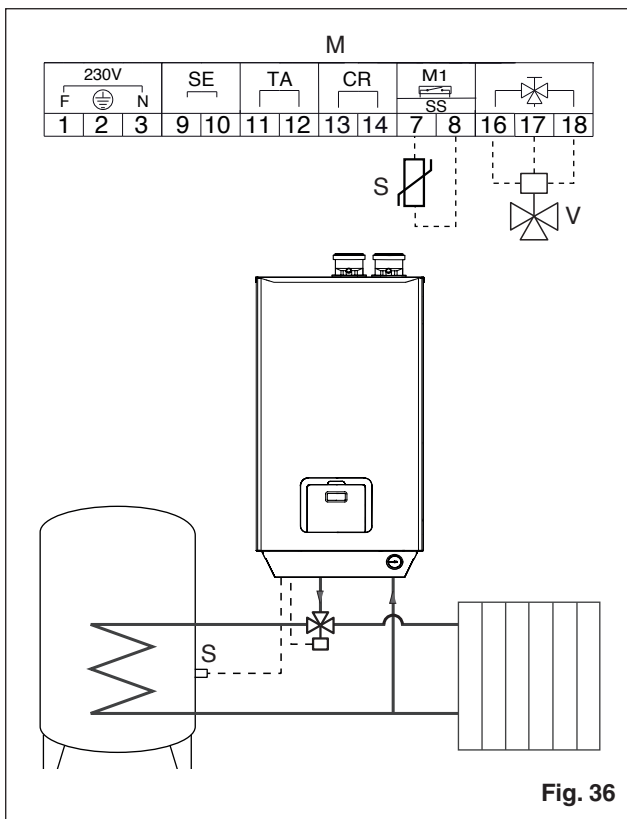

Fig. 36
- complete the water circuit shown in Fig. 36
- connect the electrical connections for the diverter valve (V) to contacts 16, 17 and 18 on the boiler's terminal board (M)
- connect the storage tank's probe (S), which is supplied as an accessory, to contacts 7 and 8 on the boiler's terminal board (M)